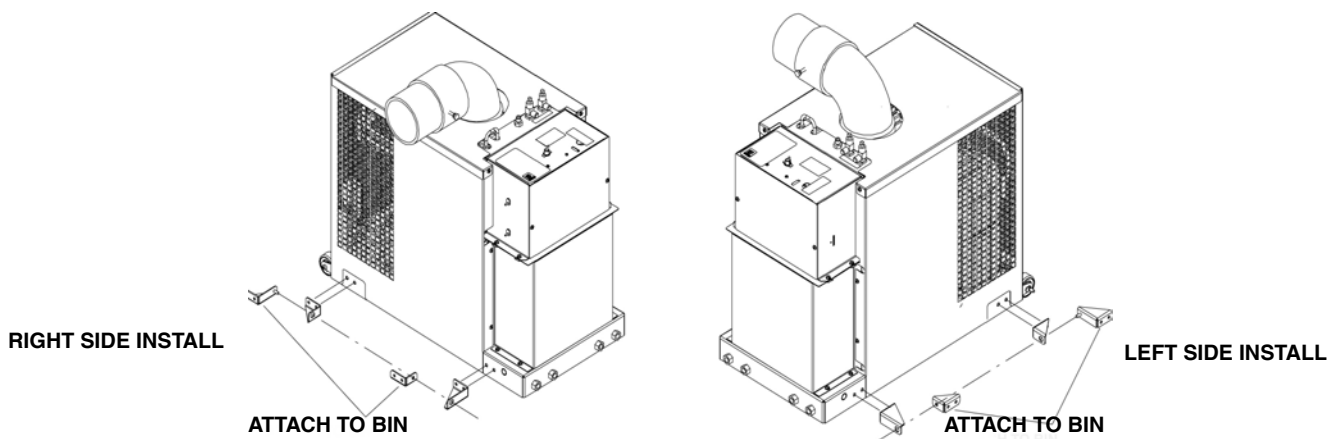

Figure 2. Side Bracket Installation
- B. Install the ice maker alignment brackets (*Supplied with icemaker*) to the dispenser (See Figure 2).
- A. Install the icemaker alignment brackets (*Supplied with icemaker*) to the icemaker (See Figure 2).